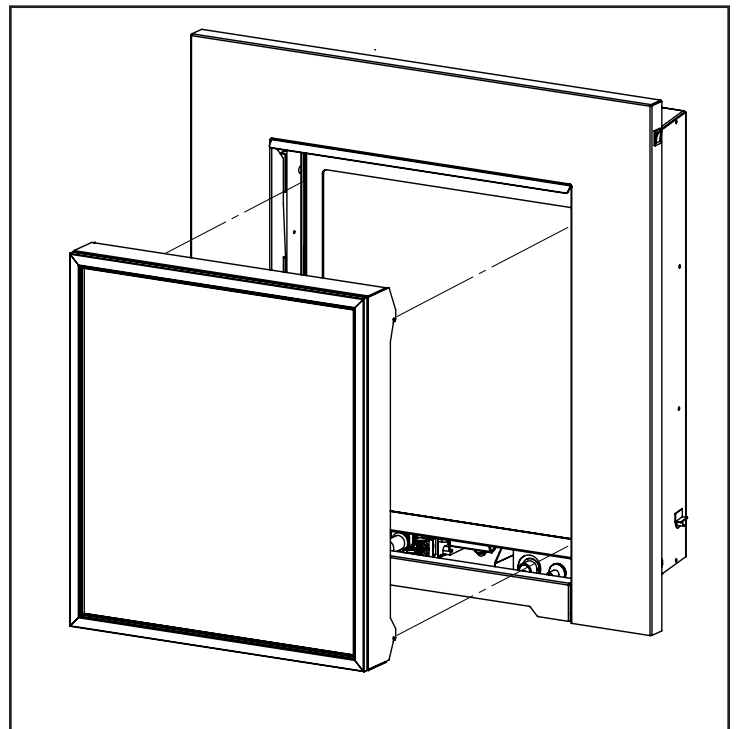

Figure 48: Installing Safety Screen onto Brackets.
2. Lift the face upright in front of the fireplace with the four (4) hooks pointing towards the fireplace. Slide the hooks into the corresponding brackets on each side of the cabinet (see Figure 48). Ensure the hooks are secure before releasing the safety screen.